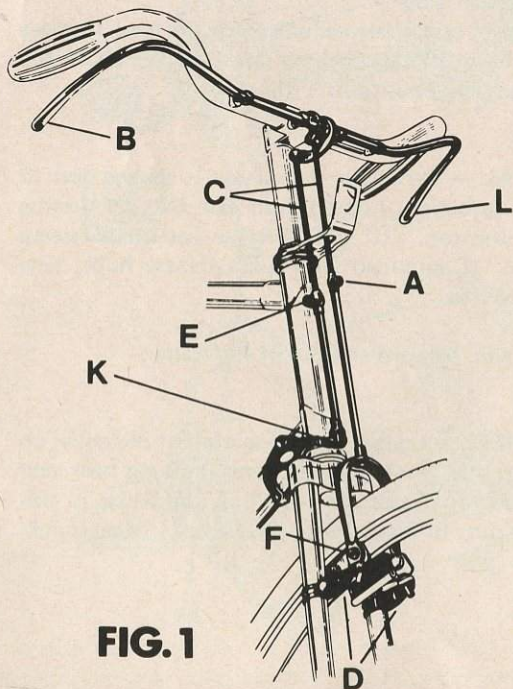

FIG. 1
1. Loosen nuts "E" and "H". Figs. 1 & 3.
4. Slightly raise tube at "K", depress roller lever "L" and brake rod "C". Fig. 1.